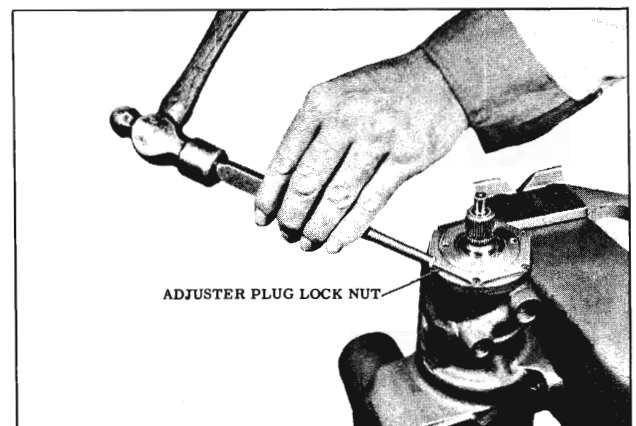

Fig. 4-45 Loosening Lock Nut
- a. Loosen the adjuster plug lock nut with punch. (Fig. 4-45)